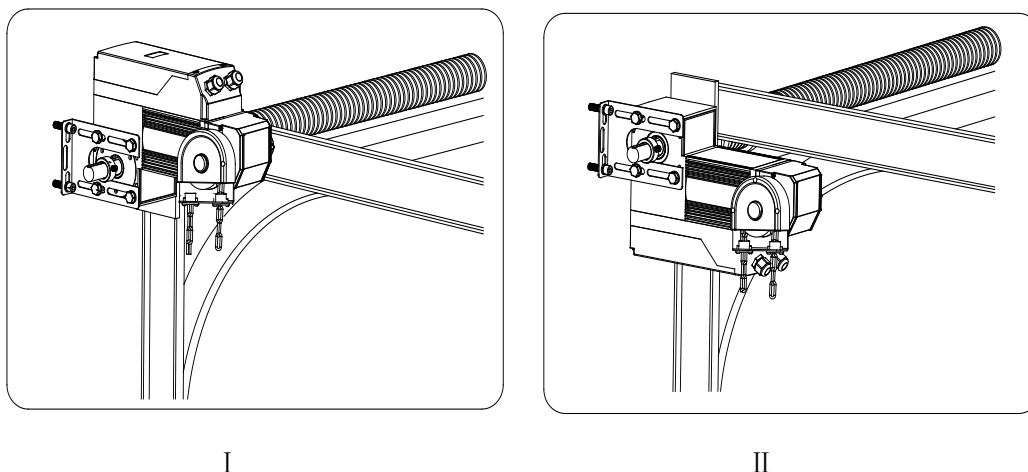

Fig.9
Before installing, make sure that the space available above the door are suitable, it is recommended that you should better install the operator as shown in fig.9 (I).